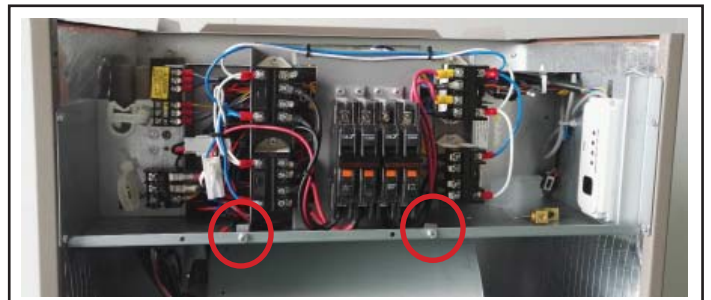

Figure 16. Secure Circuit Breaker Panel
17. Secure the circuit breaker panel onto the lip at the front of the control box with the two short screws. See figure 16.